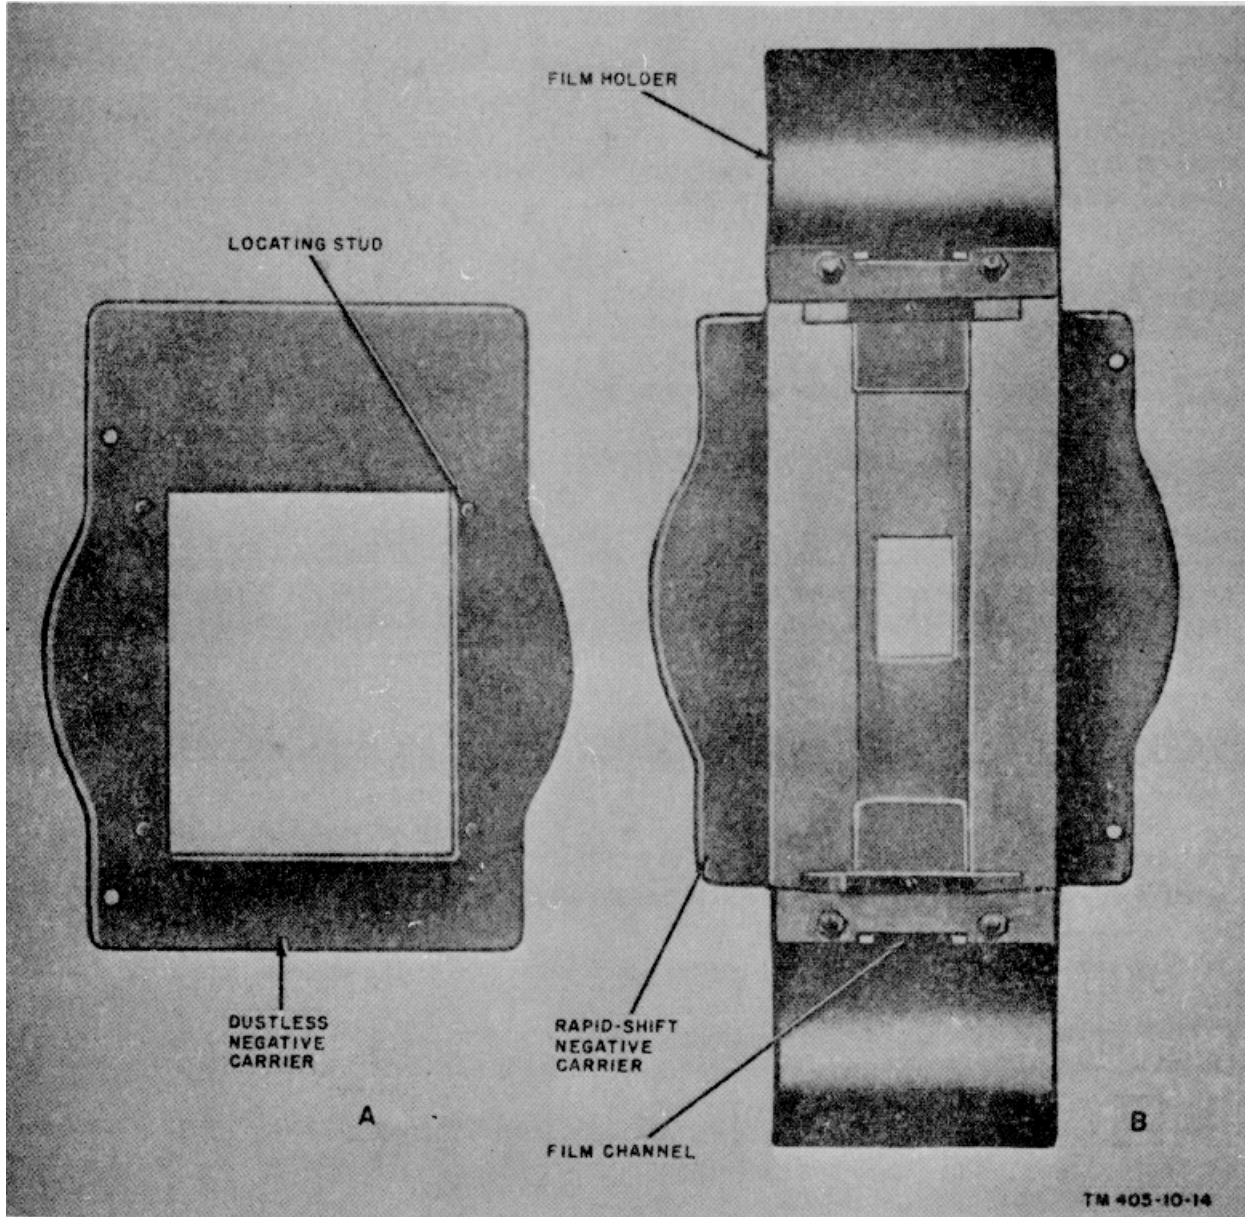

Figure 21. Dustless negative carrier and rapid-shift negative carrier furnished with PH-406.
(1) PH-406 (A, fig. 21).
- (1) PH-406 (B, fig. 21).
- (a) For dustless negative carrier and rapid-shift negative carrier (fig. 21), place the carrier on the bellows top